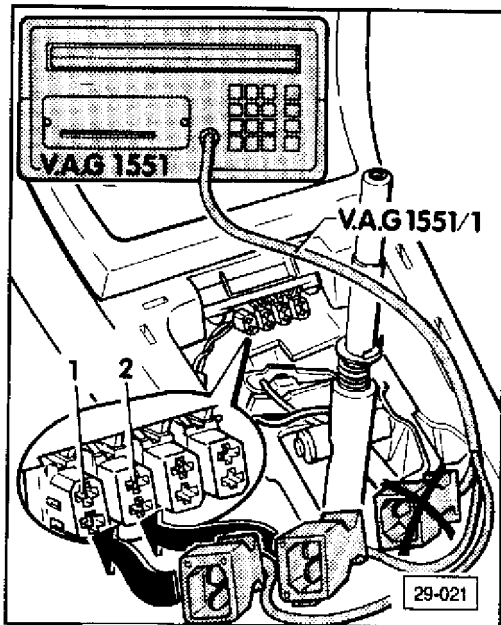

Fig. 2: Connecting VAG 1551 with Adapter Cable
- \* Blue terminal not used. See Fig. 2.